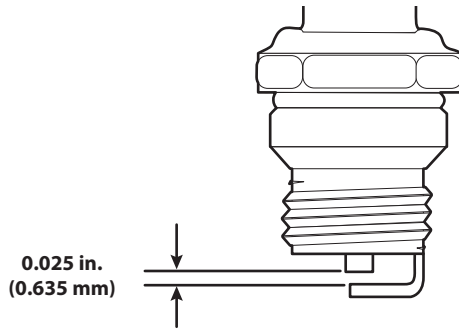

Fig. 30
4. Use a feeler gauge to set the air gap at **0.025 in. (0.635 mm)** (Fig. 30).